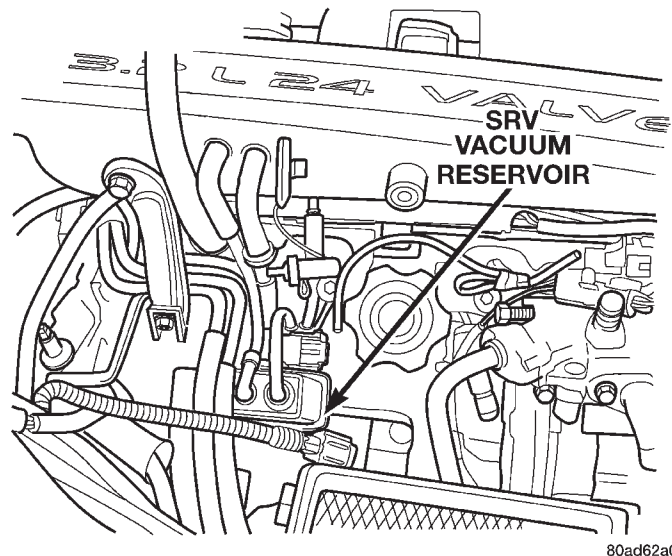

Fig. 56 Vacuum Reservoir
- (1) Disconnect the negative battery cable.
- (2) Remove air inlet hose and resonator box and air cleaner top.
- (3) Remove the 3 fasteners from vacuum reservoir (Fig. 56).
- (4) Remove electrical connector.
- (5) Remove vacuum hoses.
- (6) Remove vacuum reservoir.